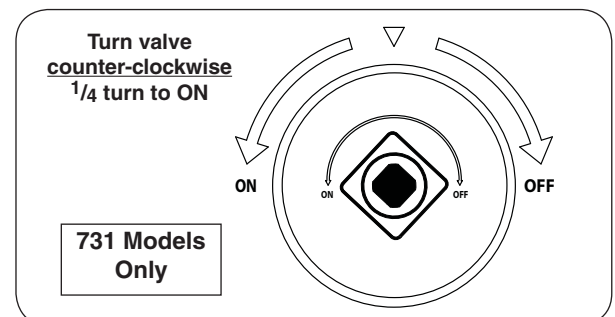

Fig. 39-2 ON/OFF key valve detail
3. If equipped, turn the ON/OFF key valve counter-clockwise a $\frac{1}{4}$ turn to the **ON** position (Fig. 39-2).